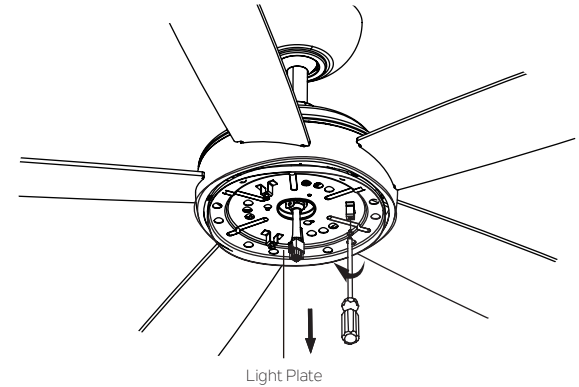

Fig. 18
Step 1. Remove one of the three screws in light plate and keep for later use, slightly loosen the other remaining screws. (Fig. 18)